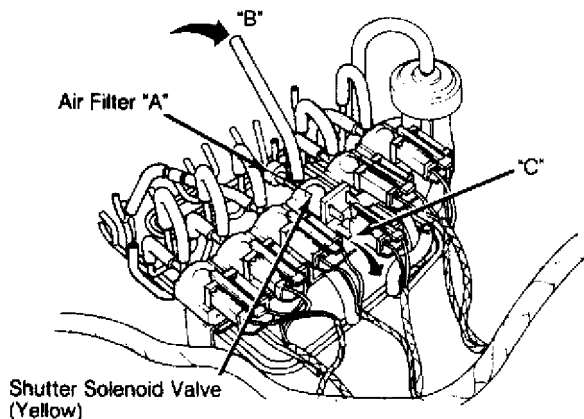

Fig. 4: Testing Shutter Solenoid Valve
1) Disconnect vacuum sensing tubes from shutter solenoid valve (Yellow color dot). Blow through solenoid valve through vacuum hose "B" shown in Fig. 4; . Make sure air passes through the valve and comes out port "C".